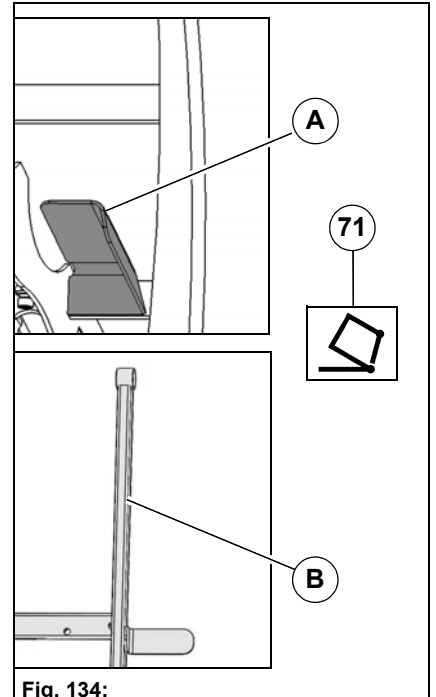

Fig. 134:
- Always bring and insert the safety strut **Fig. 134-A** of the dirt hopper into the upper position during maintenance and cleaning work under the raised dirt hopper. There is danger of injury!
Hinge over the safety strut **Fig. 134-B**.
Lower the dirt hopper with the button **Fig. 134-71-** and insert the safety strut in the recess **Fig. 134-A**.